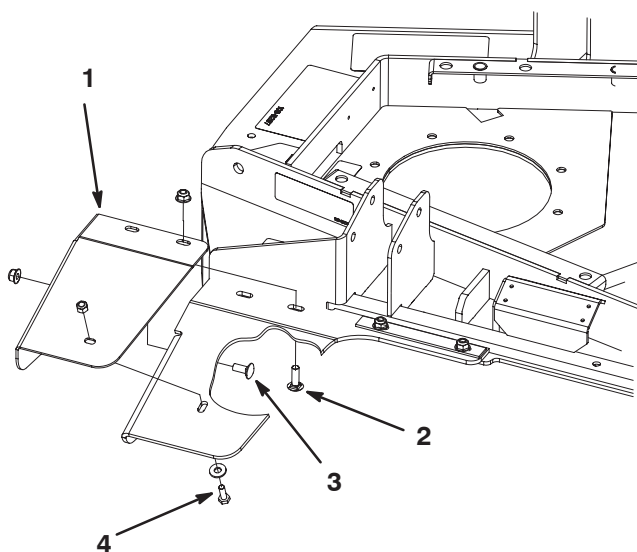

Figure 2
2. Loosely mount the L.H. foot shield to the rubber deflector using the fasteners and locations detailed below. Position the fasteners as shown in figure 2.
- Front edge – (2) 5/16 x 1 in. lg. carriage bolts and flange nuts.
- Side – (1) 1/4 x 3/4 in. lg. carriage bolt and flange nut.